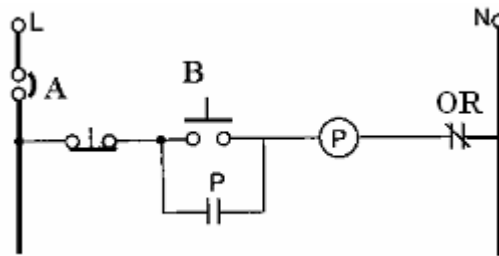

Figure 8
17. Figure 8 shows a direct on line control circuit.